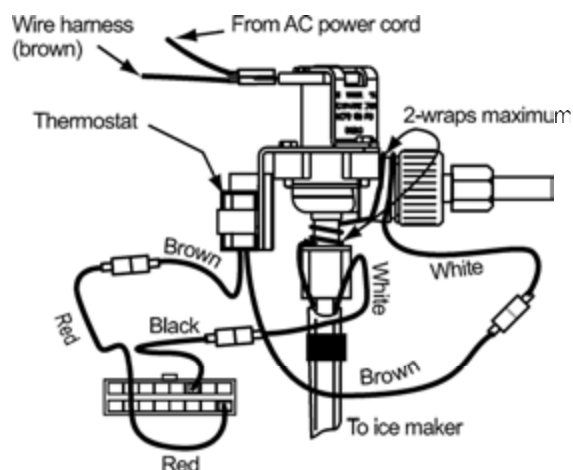

Figure 53. Solenoid water valve (models without water dispenser)
The ice maker water valve, see Figure 53, is solenoid operated. This valve is located on the bottom of the cabinet on the bottom of the refrigerator. The solenoid is supplied 120 Vac through the ice maker wire harness. Spring pressure maintains the valve shut when the solenoid is not energized.
3. Carefully wrap one white heater wire around the valve as shown in Figure 53. Do not exceed two wraps at each point.